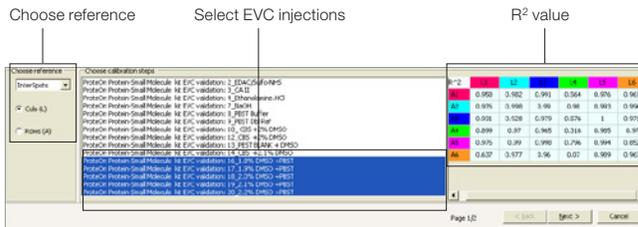

Fig. 6. Choosing reference and EVC injections, and viewing the  $R^2$  value of the fit.
- In the step list, select a minimum of three EVC injections, if they are not already selected (Figure 6). The wizard displays EVC calibration data as thumbnail plots that show a best-fit line. These plots are accompanied by a table that lists the  $R^2$  values for the best-fit lines.